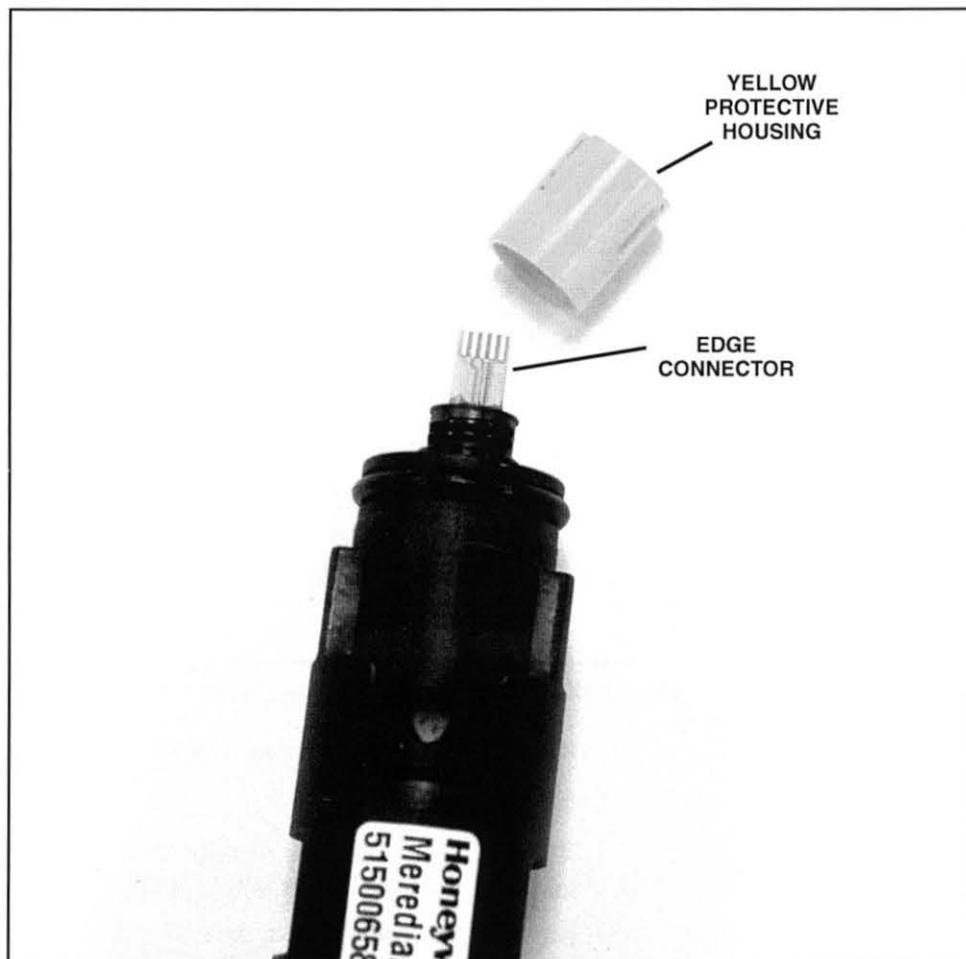

Figure 33. Yellow Plastic Protective Housing Removed
C. Unscrew and remove the yellow plastic protective housing from around the electrodes edge connector, as shown in figure 33. You must turn the yellow plastic housing counterclockwise to unscrew it.